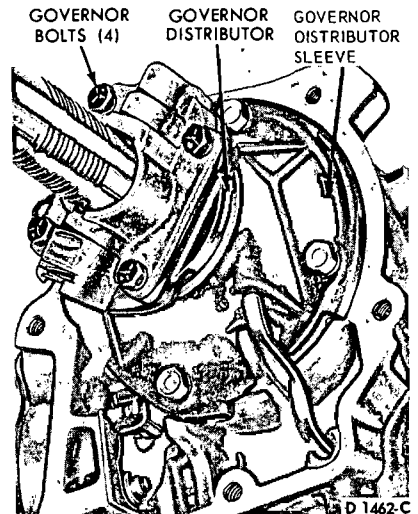

FIG. 32—Governor Installed
7. Remove the governor housing-to-governor distributor attaching bolts (Fig. 32). Remove the governor housing from the distributor.
9. Install the governor housing on the governor distributor (Fig. 32).